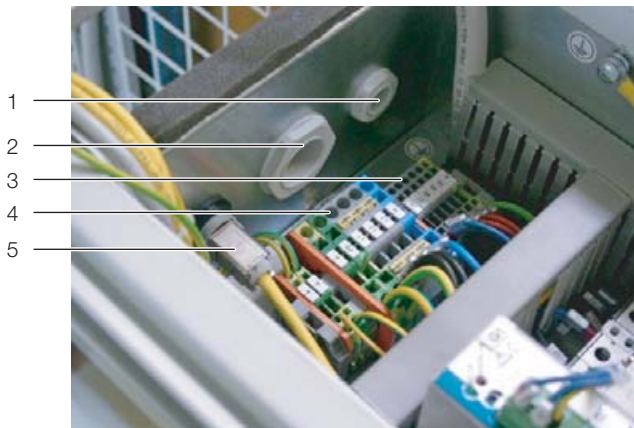

Fig. 29: Connection terminals in the electronics box
- If you wish to switch the LCP DX on and off remotely: In the electronics box, remove the jumper between the two terminals 24 and 27 ("Remote On-Off") and connect a floating remote switch (normally open contact) (fig. 29, item 3). If the two terminals are not jumpered, the status message "Din-Off" will appear in the display.